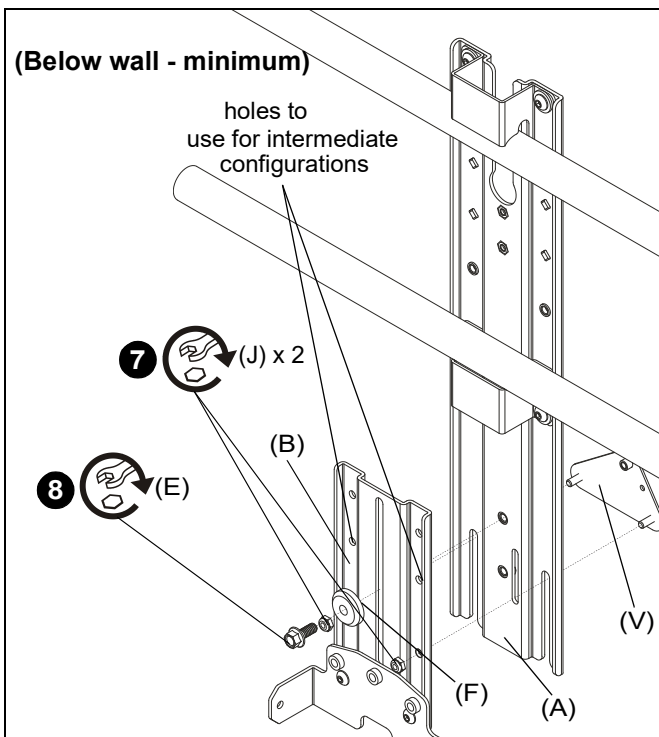

Figure 6
- (For **minimum/intermediate extension**) Use two #10-24 lock nuts (J) to secure upright bracket (A) to main bracket (B) and adapter plate (H). (See Figure 6)
**NOTE:** Camera shelf (D) may need to be temporarily removed in order to attach lock nuts (J) for minimum extension.
- (For **minimum/intermediate extension**) Use 1/4-20 x 5/8" hex head flange bolt (E) and center washer (F) to secure upright bracket (A) to main bracket (B). (See Figure 6)